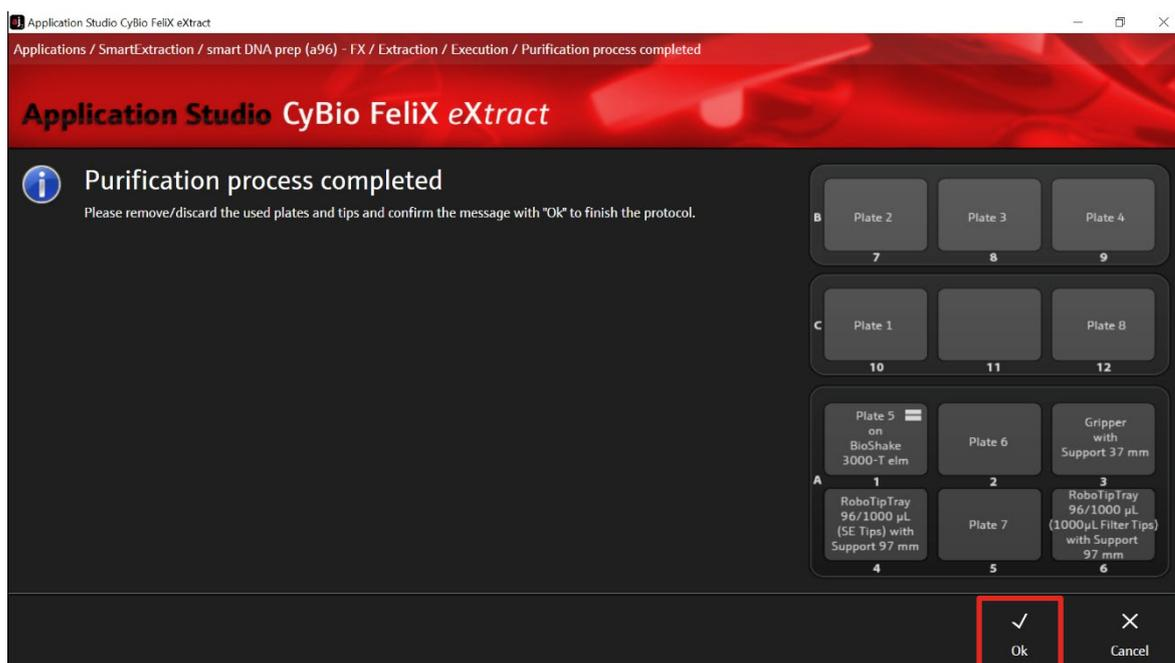

Figure 18: Purification process completed.
12. The chosen protocol is performed by device. After the protocol is finished, the message “Purification process completed” is displayed. Confirm the message with “Ok” (→ see Figure 18).